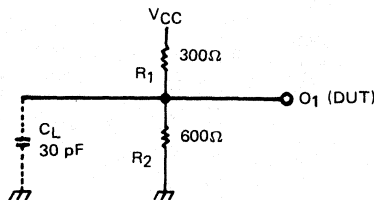

FIGURE 1
- ① Output Load: See Fig. 1.
- ② Input Waveform: 0.0V for low level and 3.0V for high level, less than 10ns for both rise and fall times.
- ③ Measurement References: 1.5V for both inputs and outputs.
- ④ CL in Fig. 1 includes jig and probe stray capacitances.